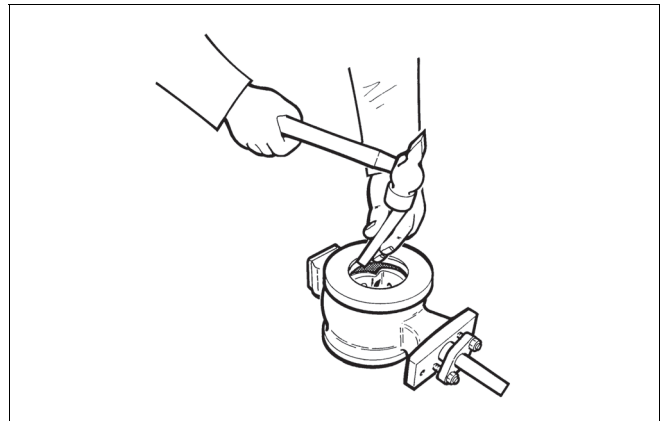

Fig. 13 Knocking off the seat
- Tap the seat (4) with a soft spindle all around the circumference from the upstream side to make it fall into the body, Fig. 13.